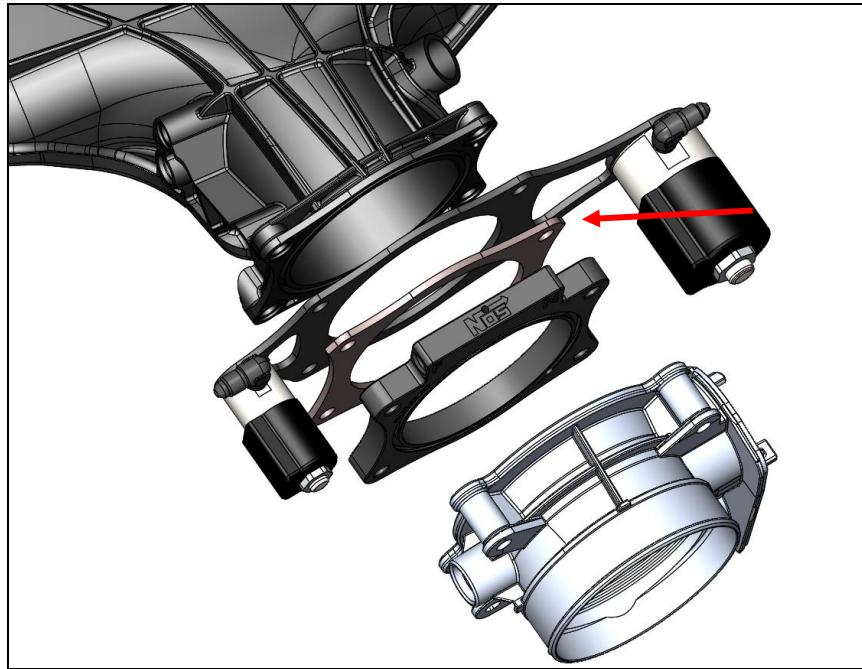

Figure 10 – Nitrous Plate & Solenoid Bracket Installation
7. Install the nitrous plate and solenoid bracket assembly onto the intake manifold using the new, longer throttle body bolts, as shown in **Figure 10**. Be sure to install the included gasket between the solenoid bracket and the nitrous plate.